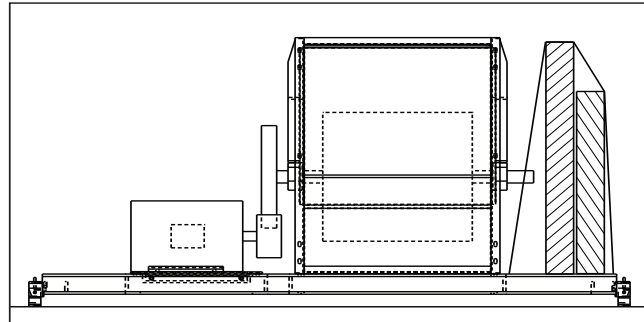

Fig. 65 — Example of Sizes 21-110 Shipping Box
2. The Power Exhaust hood and damper will be shipped in separate boxes in the return/exhaust fan section. See Fig. 65. Remove the steel strapping and remove the boxes from the return fan section.